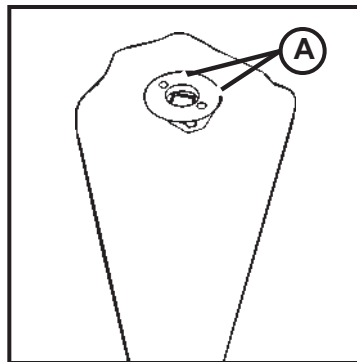

FIGURE 2
11. Remove the (2) screws and cap plate (Shown as "A" in Figure 2).